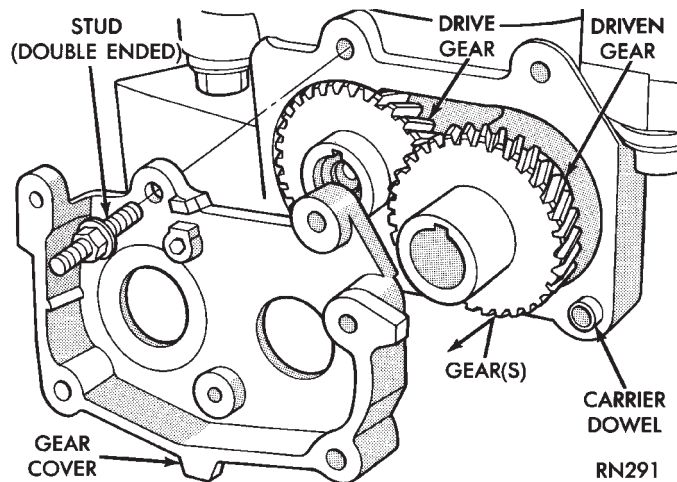

Fig. 18 Gear Cover and Gears
(3) Remove gear cover retaining stud (double ended to also retain chain guide). Remove cover and balance shaft gears (Fig. 18).
(4) Remove carrier rear cover and balance shafts. (Fig. 18).
- (1) With balance shafts installed in carrier (Fig. 18) position carrier on crankcase and install six attaching bolts and tighten to 54 N•m (40 ft. lbs.).